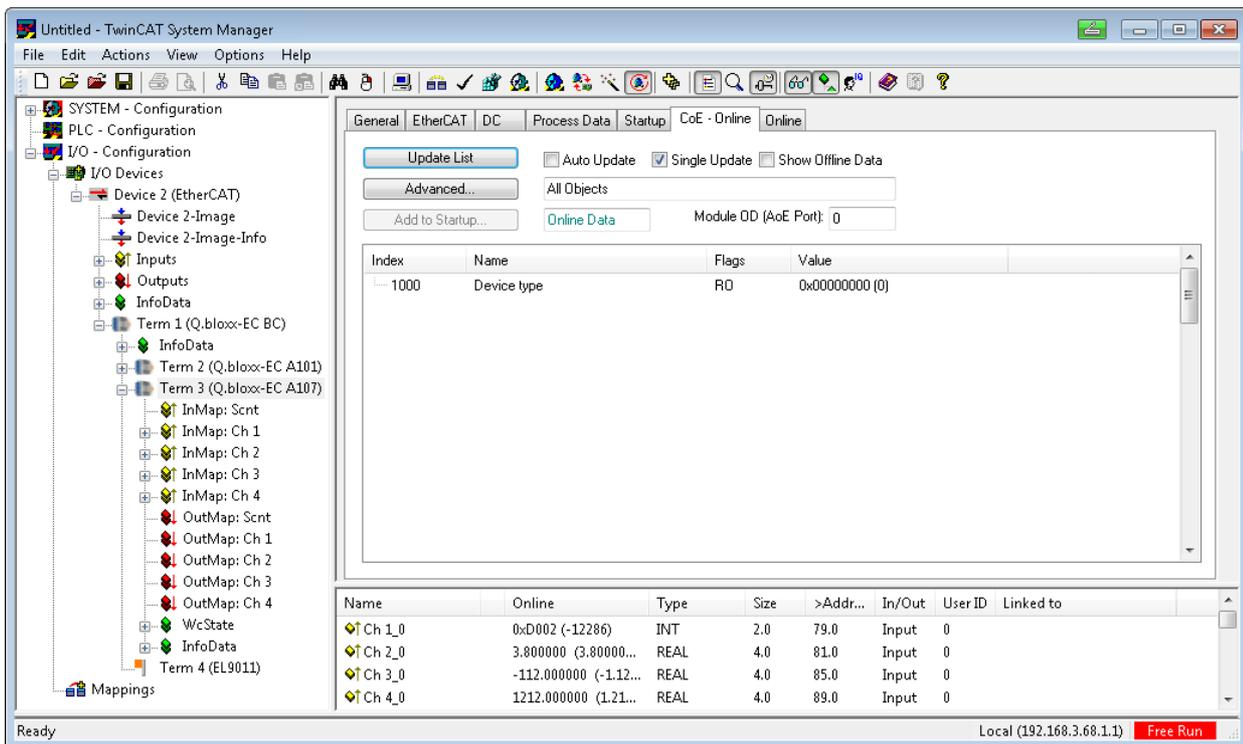

Fig. 6-26 Modules connected to the bus coupler.
Open up the “terminal” bus coupler to view the modules connected to it. In Fig. 6-26 two modules are connected, a Q.bloxx-EC A107 (Terminal 2) and a Q.bloxx-EC A101 (Terminal 3).
1. Mark a module (terminal) and click on **Advanced** on the **CoE - Online** tab (Fig. 6-26).